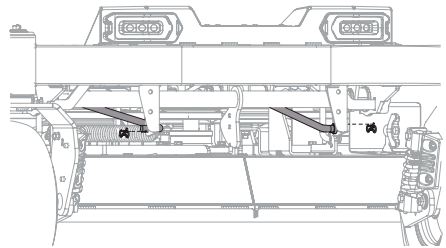

Figure 49
6. Remove the two bow-tie pins from the deck rods that secure the front center lift link brackets on the frame to the front-center lift brackets on the deck and pull the front end of the rods out of place (Figure 49).